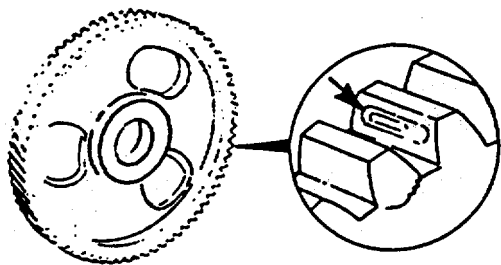

FIGURE 4-28. Inspecting Spur Gear.
4-9. Repair Camshaft Gear Group. (FIGURES 4-28 through 4-32)
- c. Inspect the gear teeth for pitting. Check for cracks at root of gear teeth. (FIGURE 4-28).